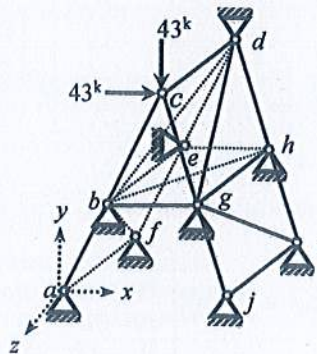

Fig. 2
- Ignore zero-force members of the space truss **abcdefghij** shown in **Fig. 2** and apply boundary conditions to formulate its stiffness matrix and load vector